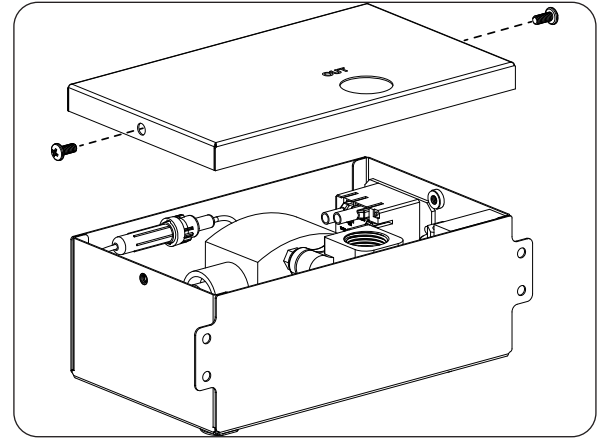

Fig. 49-2 Remove access panel of valve box
4. Use a Phillips screwdriver to remove the access panel of the valve box (see Fig. 49-2).